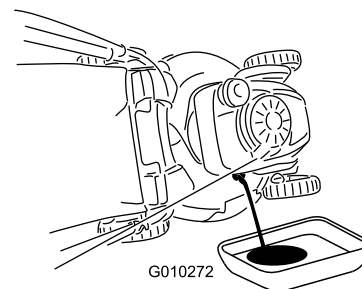

Figure 45
4. Tip the mower onto its side, with the air filter up, to drain the used oil out through the oil fill tube (Figure 45).